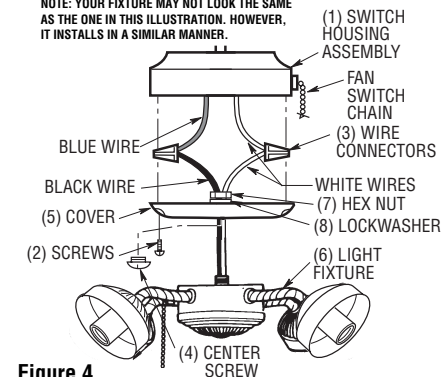

Figure 4
2. Remove the cover (5) from the fan switch housing (1) by removing the two outer screws (2). (See Figure 4.)
3. Remove the center screw (4) in the switch housing cover (5). Insert the black and white wires from the light fixture (6) thru the hole and thread the switch housing cover tightly onto the light fixture. (See Figure 4.)